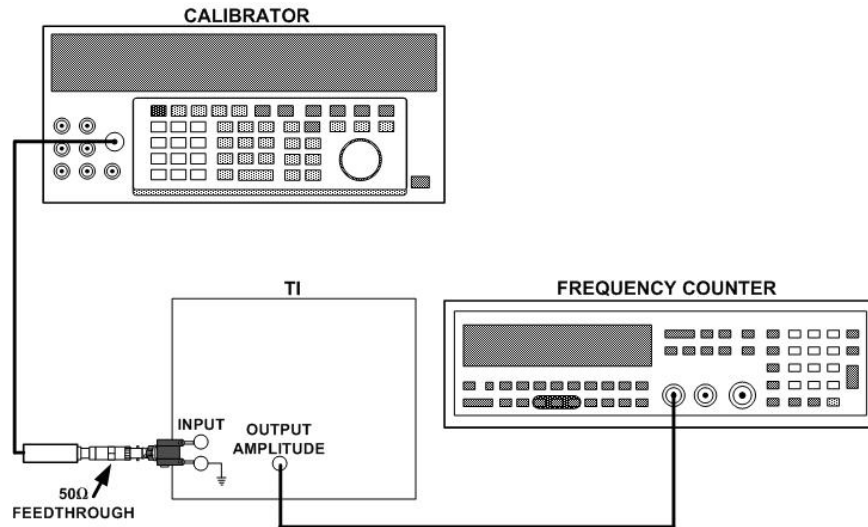

Figure 3. AFC discriminator - equipment setup.
- (1) Connect equipment as shown in figure 3.